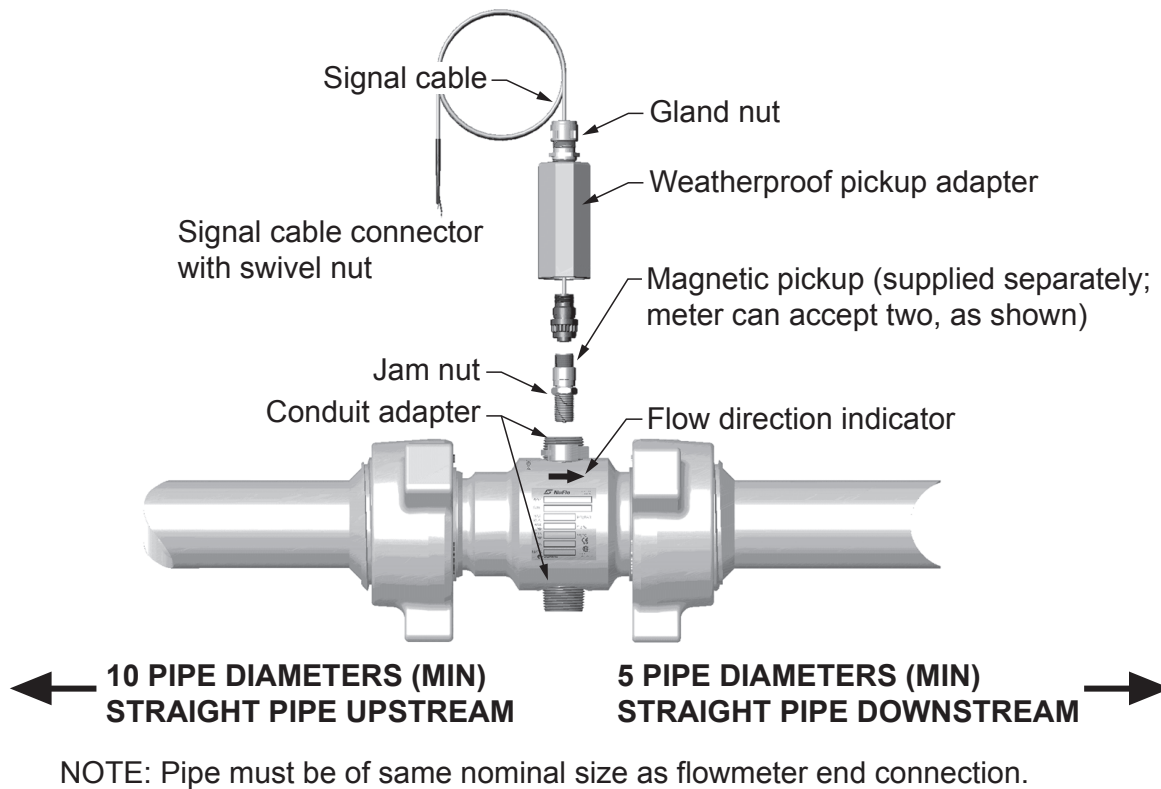

Figure 3—Installation of magnetic pickup
4. Install the magnetic pickup as follows, referencing Figure 3 as needed:
1. Note that the arrows that are cast or engraved on each part, indicating the direction of flow. When the meter is assembled, these arrowheads and the arrow engraved on the meter body (see flow direction indicator in Figure 3, page 7) must point in the direction that product will flow through the meter.